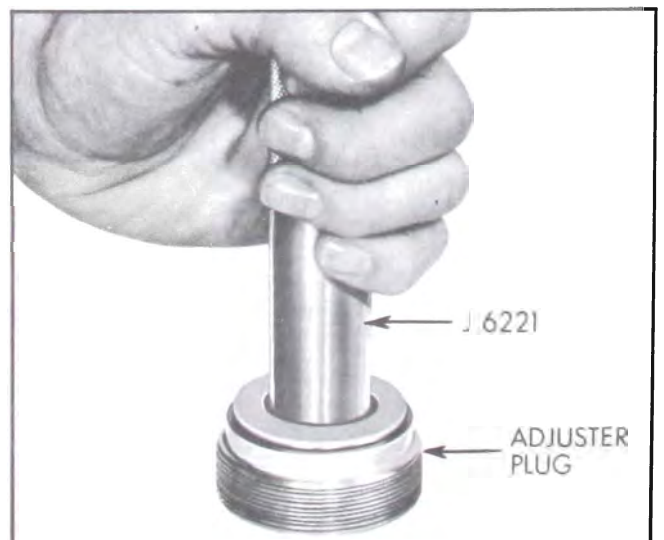

Figure 8-45—Removing Adjuster Plug Needle Bearing
4. Inspect needle bearing in adjuster plug and if rollers are broken or pitted, remove needle bearing by pressing from thrust bearing end using Tool J-6221 and discard bearing. See Figure 8-45.